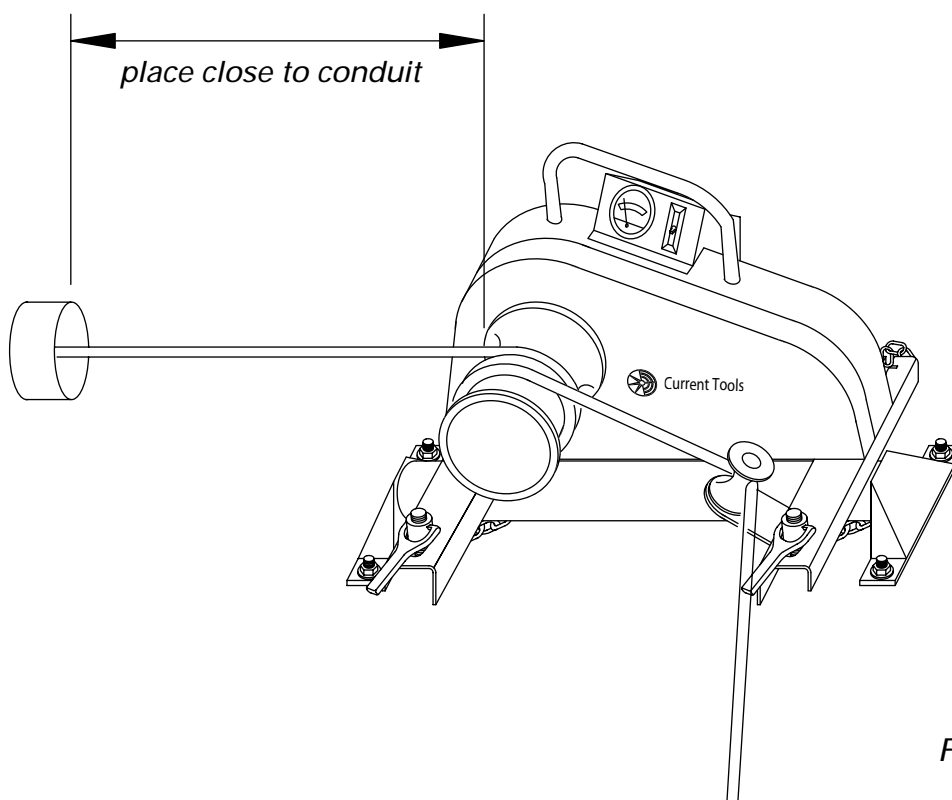

Figure 6B
**ALWAYS** place the floor mount close to the conduit. This will reduce the possibility of injury should the rope break. See Figure 6B.